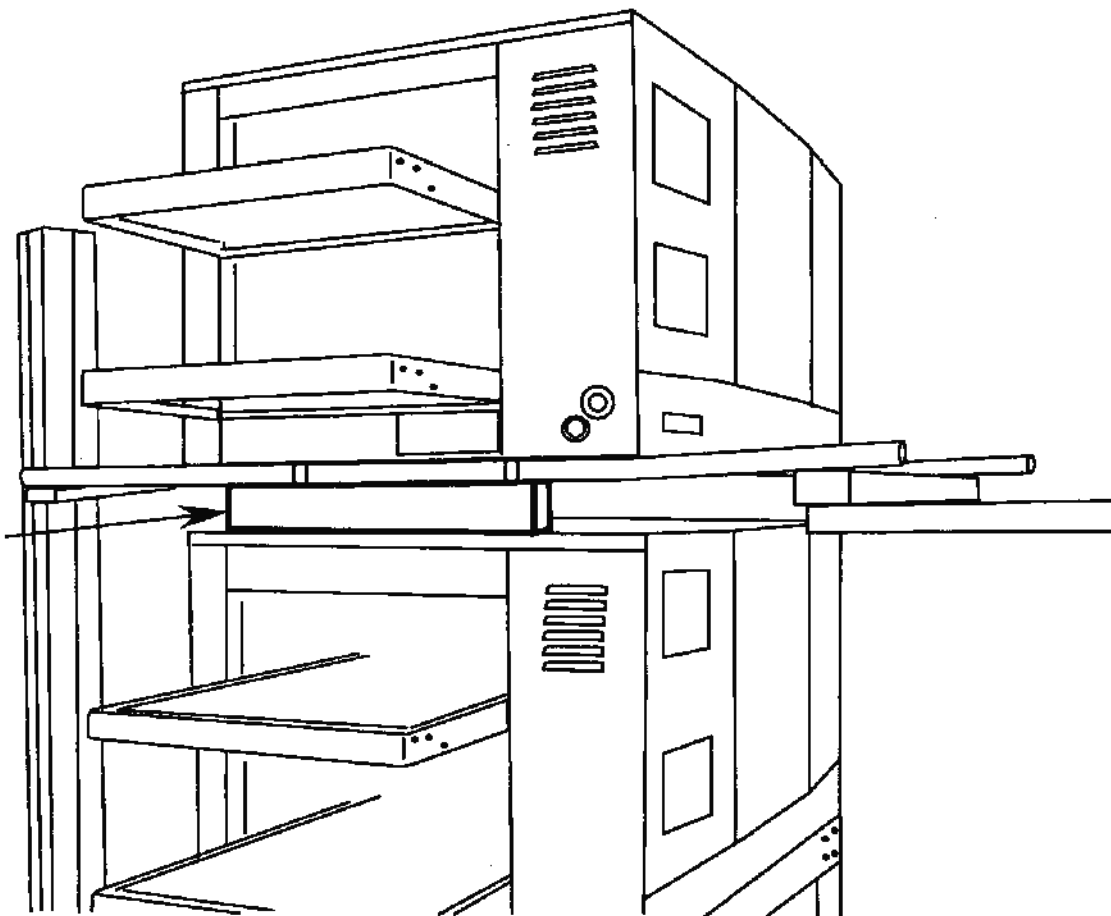

Figure 2-8
4. Place a 2' (61 cm) long 4" x 4" (10.2 cm x 10.2 cm) board across each end of the top of the lower oven. Then carefully lower the upper oven onto the 4" x 4" (10.2 cm x 10.2 cm) boards. See Figure 2-8. Remove the lifting pipes.